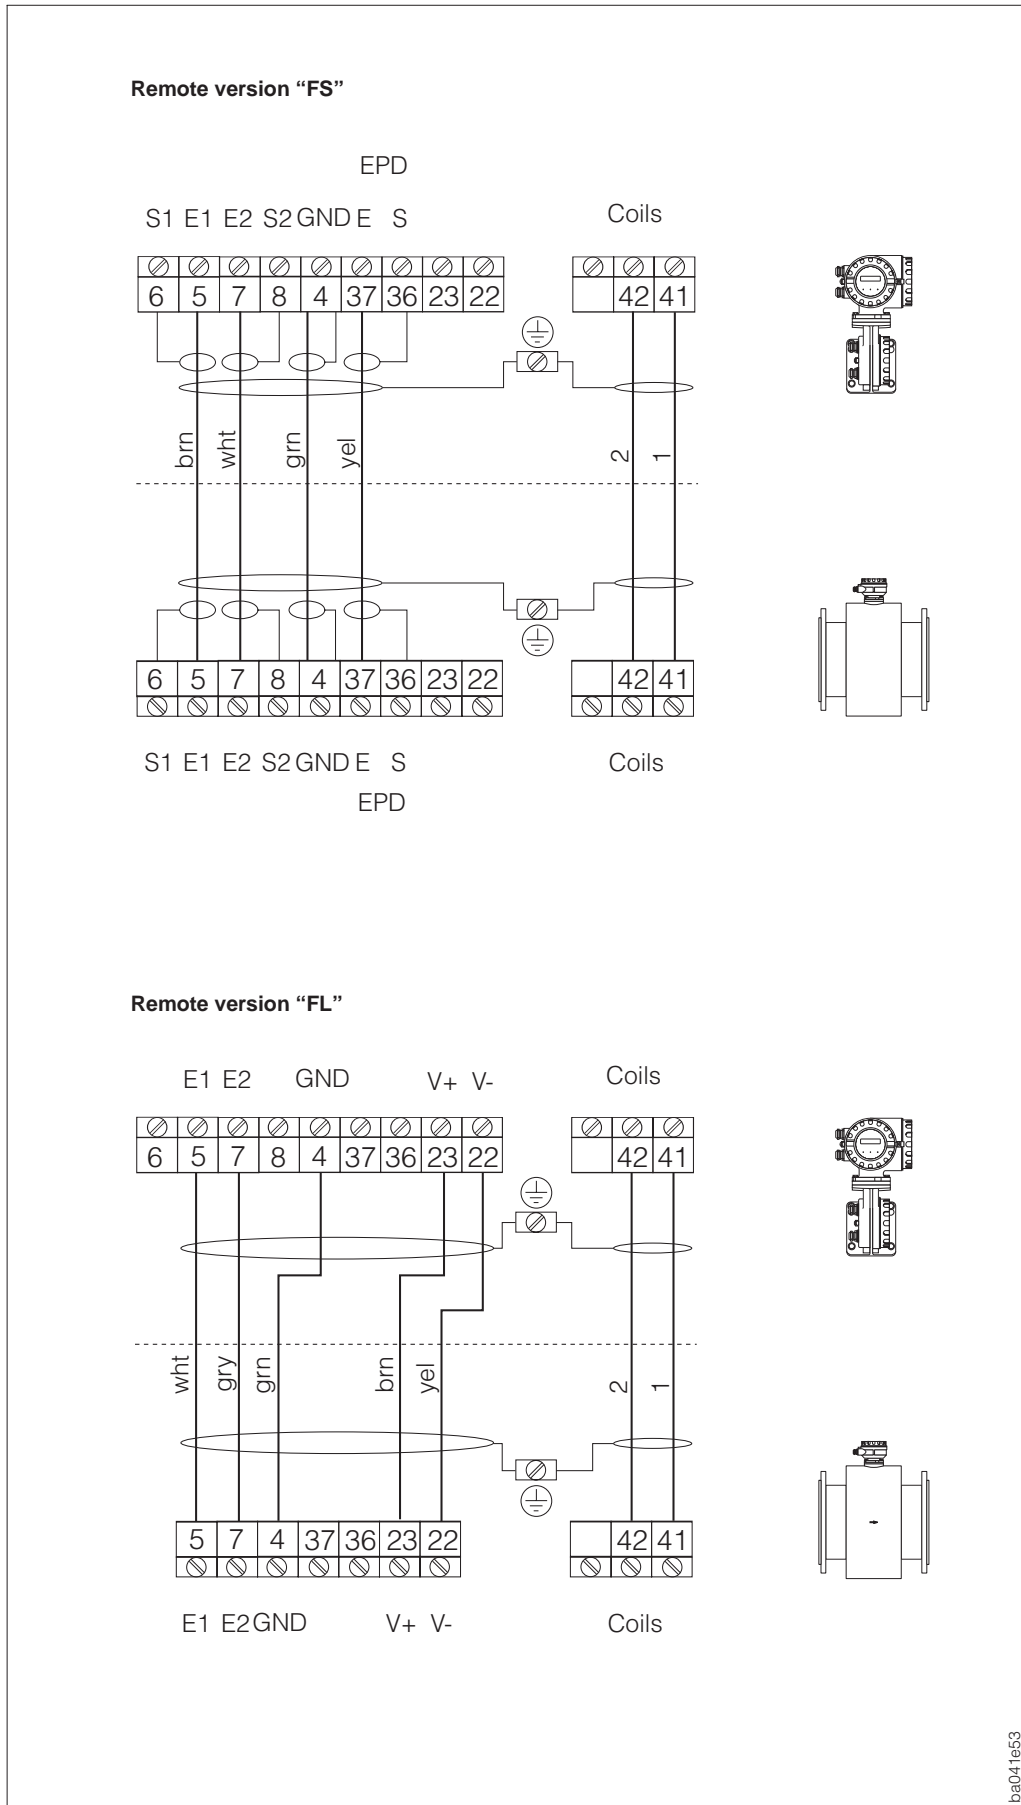

Fig. 25
4. Connect the sensor / transmitter cable according to the wiring diagrams (see Fig. 25).